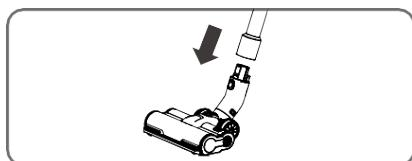

Figure 3
- Push one end of the round brush mouth into the tube end of the air outlet to ensure it is tight and not loose; if the sound is heard, it is installed successfully (Figure 3).